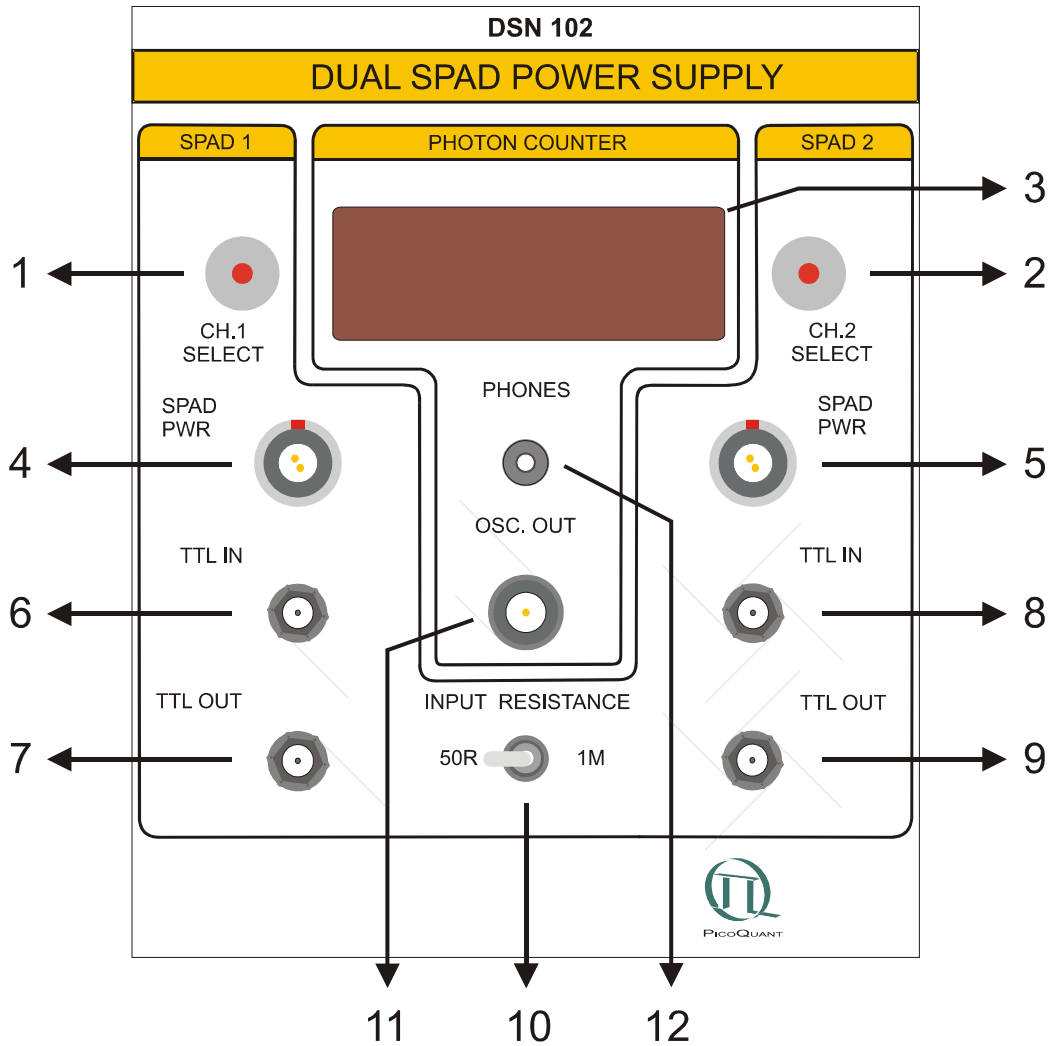

Figure 1
Fig. 1 shows the front panel of the DSN 102. The Lemo sockets (4) and (5) provide the power supply for the SPAD modules with the appropriate current rise time during power-up. The display (3) indicates both the operation status as well as the count rate of a selected SPAD module. The count rate is displayed as a floating-point number with a two-digit mantissa and a one-digit exponent. The SMA sockets *TTL-IN* (6) and *TTL-OUT* (7) as well as *TTL-IN* (8) and *TTL-OUT* (9) are shunt-connected. They act as both signal input for counting as well as signal carry-through. With the switch (10) the input impedance is selectable between 50 Ohms and 1 MOhm. To control the dynamic behaviour of the count rate one can monitor the voltage on the BNC output (11). For this purpose, it is useful to connect, e.g. an oscilloscope with